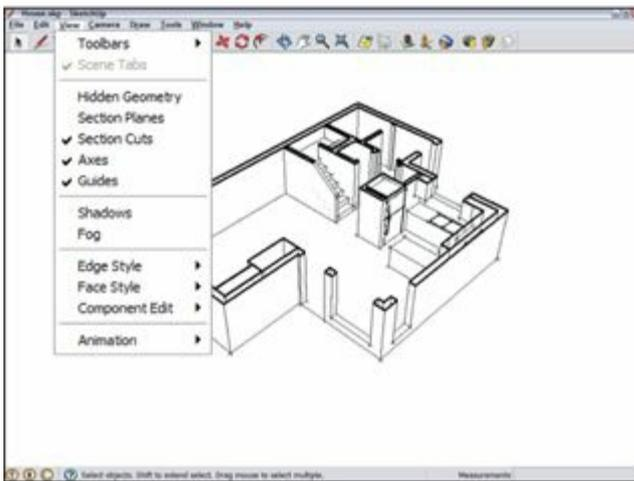

FIGURE 11-13: Control section plane visibility with Section Planes and Section Cut.
REMEMBER If you want to control the visibility of all your section planes at once, a couple menu options can help. Use both of these toggles in combination to control how section cuts appear in your model. These two options, shown on the View menu, are illustrated in Figure 11-13:
- » **Section Planes:** This choice toggles the visibility of section-plane objects without affecting the section cuts they produce. More simply, deselecting Section Planes hides all the section planes in your model, but doesn't turn off the section cut effect, as shown in the middle image in Figure 11-13. This view is how you probably want to show most of your sectional views, so this toggle is pretty important.